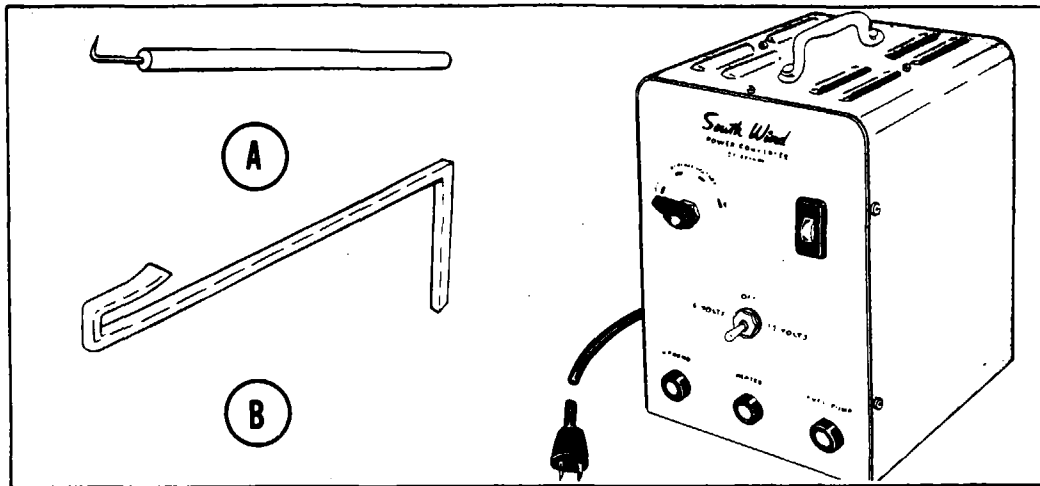

Figure 13-24. Service Tools (South Wind)
- a. Fuel Screen Tool: The fuel screen tool, South Wind Part No. ST-890022, (Refer to "A", Figure 13-24.) is to be used in removing and inserting the fuel screen in the control valve inlet. The needle point of the tool is used for the removal of the screen, while the larger end aids in the insertion of the screen in position.